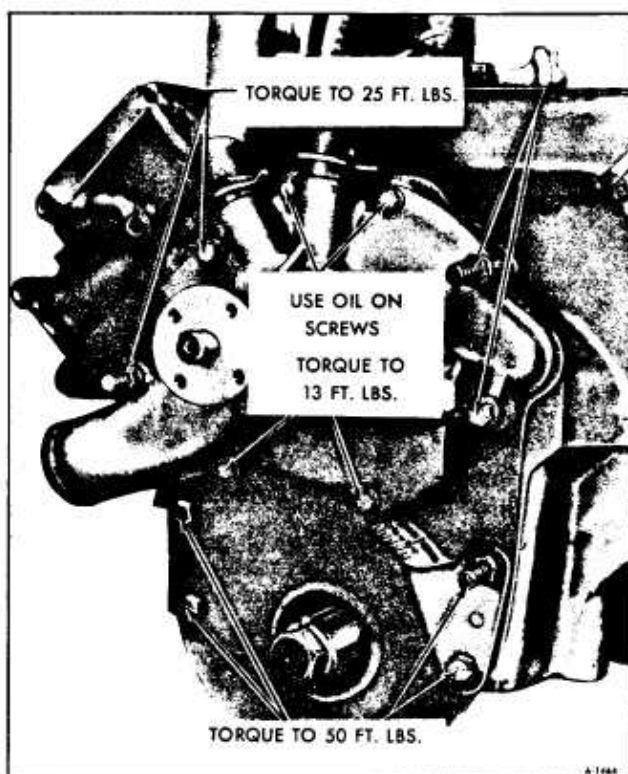

Figure 52-Engine Front Cover Bolts
2. Install front cover, timing indicator and water pump assembly. Apply engine oil to bolts and torque bolts as shown in Figure 52.